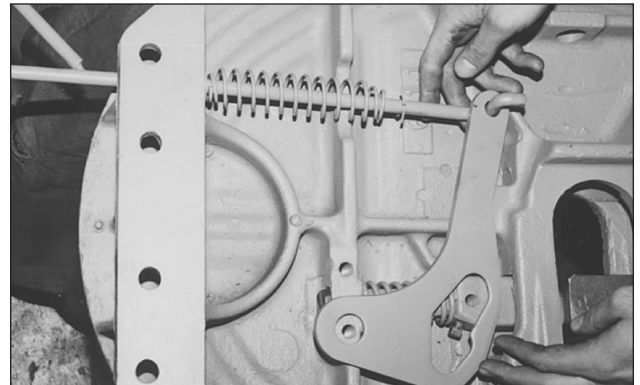

FIGURE 3
4. Insert the righthand handle (15R) into the hole in the casting and slide on the washer (14), spring (16R), washer (14), and cotter pin (12).
7. Position the cam plate on the casting with the large hole in the cam plate in line with the rearward cam anchor hole (see *Figure 3*).